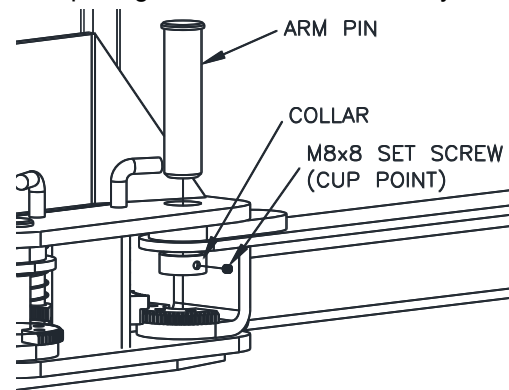

Fig. 11 –Arm Install
- 33) Lubricate the arm pin or carriage arm pin hole with “anti-seize” and install the arms as shown in **Fig 11**. Once the set screw is finger tight against the arm pin, tighten 1/4 turn with hex key.